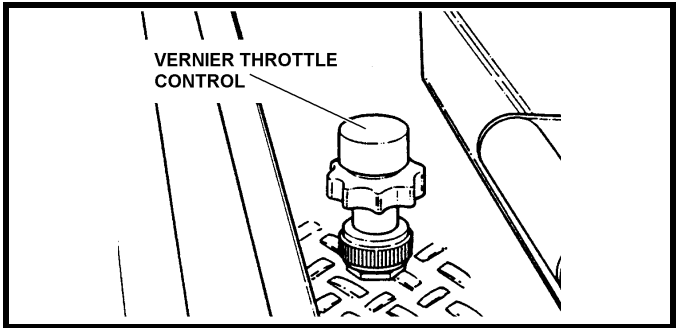

FIGURE 3.3
- 3.4** The Vernier Throttle Control, located at the left control station, is used to vary the speed of the truck engine to govern the maximum speed of the winches and cylinders. See Figure 3.3.
- 3A.3** The Vernier Throttle Control, located at the left control station, is used to govern the maximum speed of the cylinders. Refer to Figure 3.3.